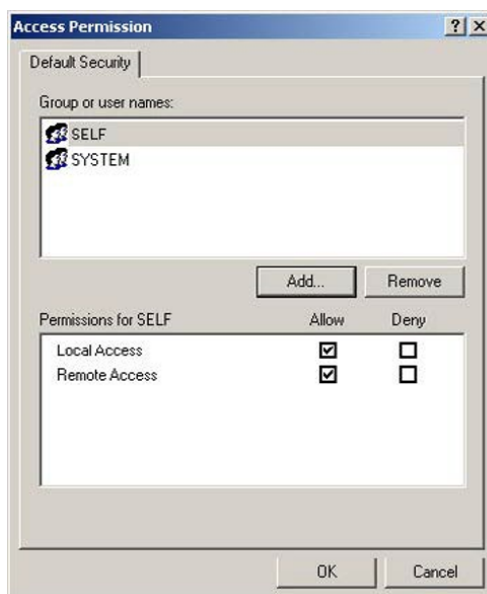

Figure 8-17. Access Permission
6. Click **Apply** after making changes as shown in Figure 8-17.